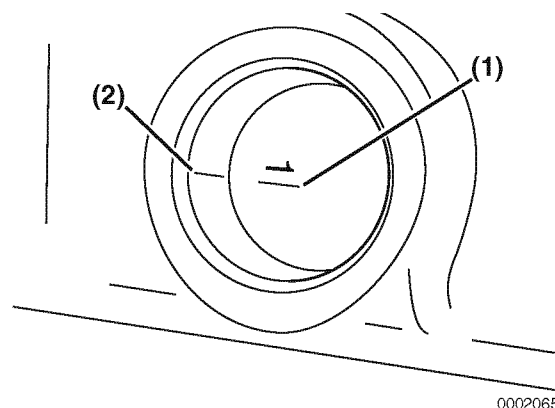
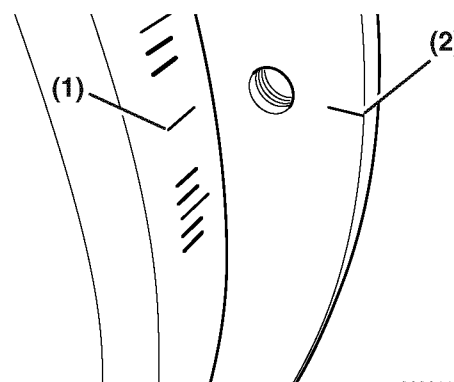
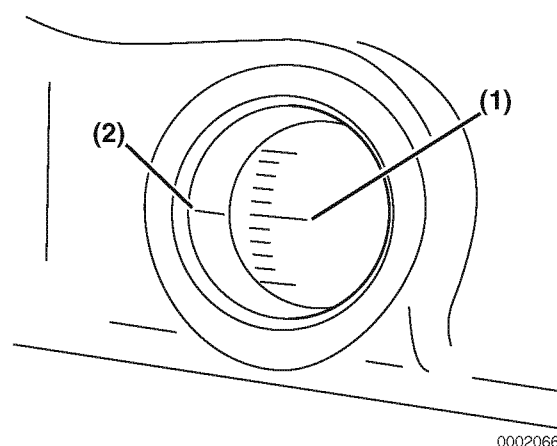

Figure 7-21
Figure 7-22
Figure 7-23
9. Highlight the timing reference mark on the flywheel housing (**Figure 7-21, (2)**) or engine back plate (**Figure 7-22, (2)**). Highlight the TDC (Top Dead Center) mark (**Figure 7-21, (1)**), (**Figure 7-22, (1)**) on the flywheel.
10. Highlight the target timing mark (**Figure 7-22, (1)**), (**Figure 7-23, (1)**) on the flywheel timing grid as the injection timing measured before the fuel injection pump removal.
18. Check the position of the flywheel target timing mark (**Figure 7-23, (1)**) on the flywheel grid in relation to the timing reference mark (**Figure 7-23, (2)**) on the flywheel housing or back plate. If the two marks are aligned, the fuel injection timing is correct. If the marks do not align, the fuel injection timing must be adjusted. *See Adjusting Fuel Injection Timing on page 7-21.*